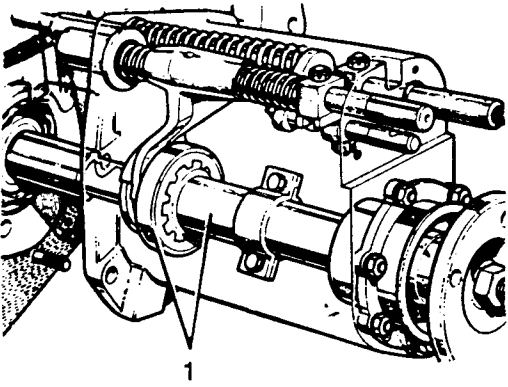

Fig H1.90
- (4) Refer to Fig H1.90. Fit the four wheel drive dog (1) joined to its fork and fit to the front output shaft.
- (5) Slide the front output shaft cover towards the transfer box casing, engaging the high and low selector shaft with its selector fork.